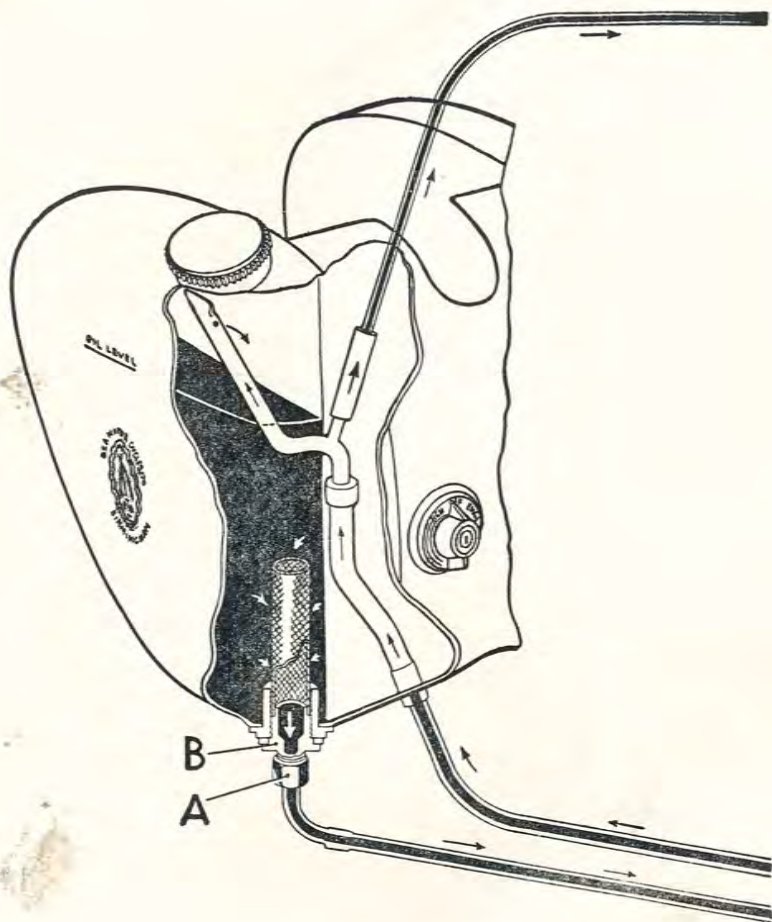

Fig. 2. The Oil Tank.
This should preferably be done immediately after running, so that the oil is warm and will, therefore, flow more freely. Disconnect the oil pipe union nut (A) Fig. 2, at the base of the tank and collect the old oil in a suitable receptacle.
Filters (Figs. 2 and 3).